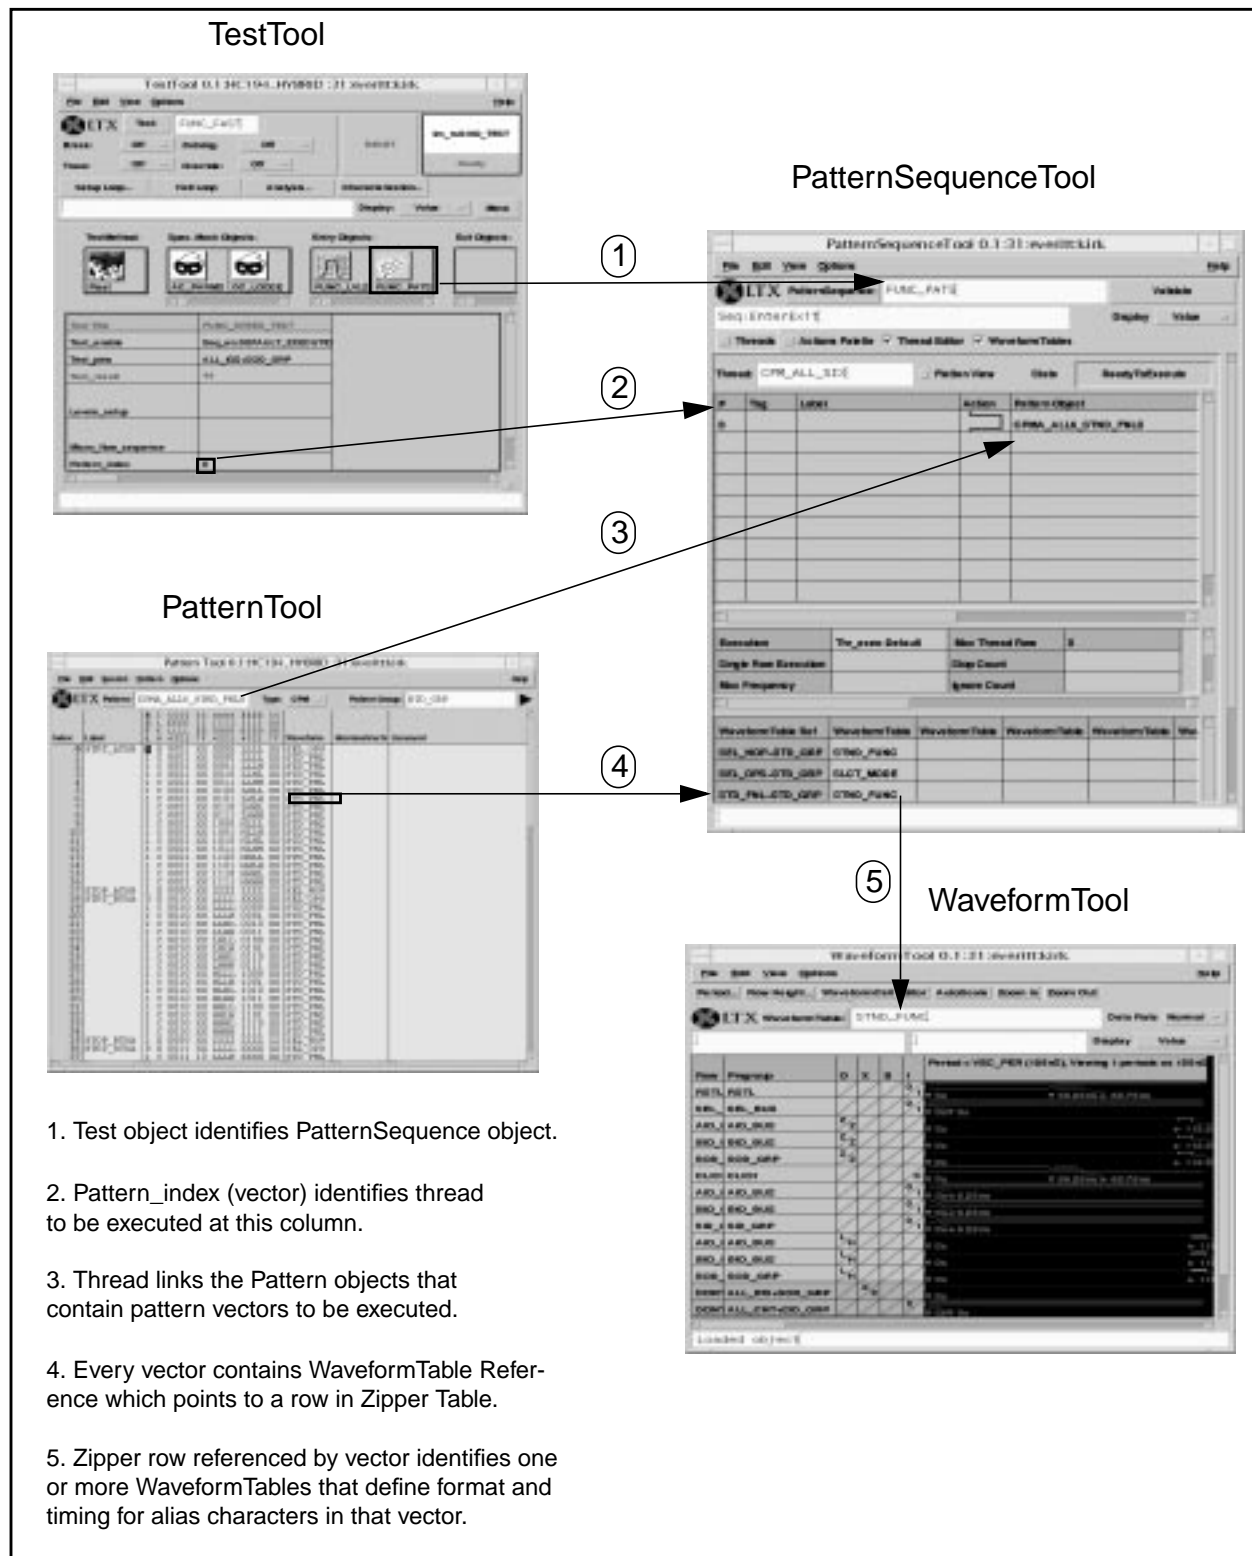

Figure 2.3: Creating Pattern, Waveform, and Timing Relationships
A **Pattern** object defines the vectors applied to the DUT. Its **components** include **pattern data objects** and other information that tell enVision how the DUT operates; see Figure 2.3. It is managed differently from other enVision data objects because pattern files are usually very large, containing millions of vectors; refer to Managing Pattern Files.
To connect all `WaveformTables` to a given `WaveformTable` Reference, use the Zipper Table in the `PatternSequenceTool`; see Figure 2.3.
- A Zipper Table is most likely to follow, where the description of the pattern specifies the `WaveformTable` References (Figure 2.3) relationships to the user `WaveformTable` defined in Waveforms. The zipper definition: